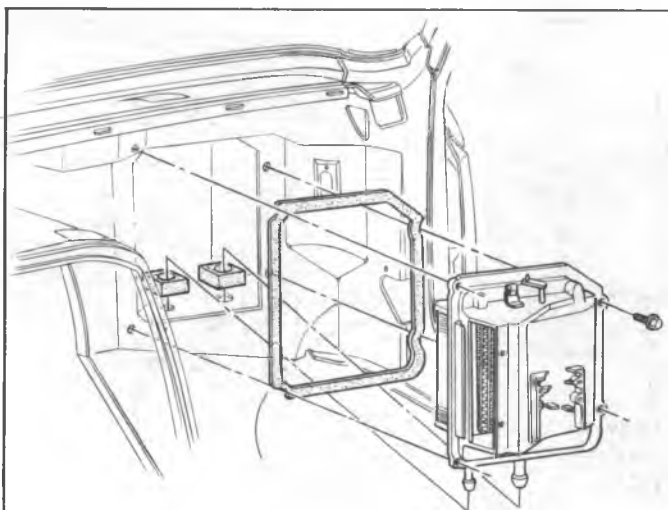

Fig. 4—Heater Core Case and Core
5. Using dimension "A" and the caster-camber chart (fig. 4) for the appropriate vehicle, shown below, find the recommended caster angle.